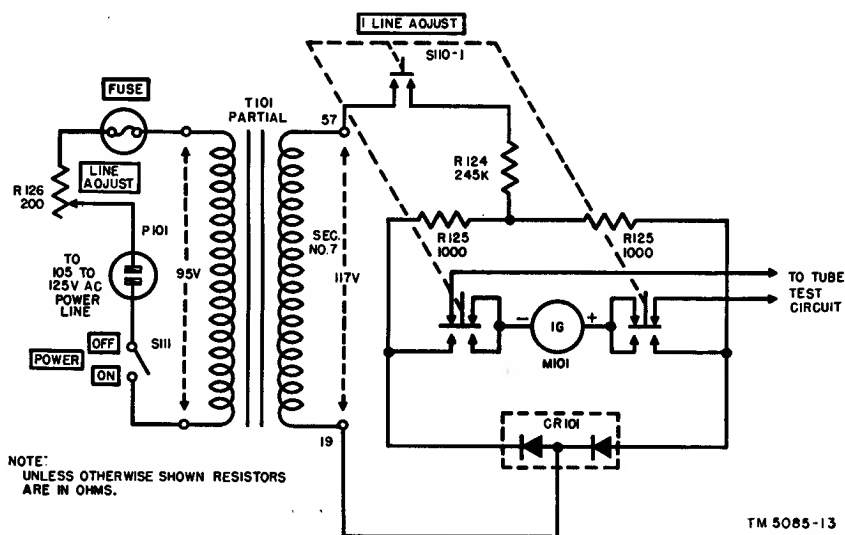

Figure 14. Simplified line voltage test circuit.
- (2) Secondary No. 7 of power transformer T101 consists of a multitapped winding designed to supply the various filament or heater voltages for the tubes under test. Voltages shown on figure 14 are measured under load. No-load voltages will be somewhat higher. For example, no-load voltage measured from point 19 to point 37 will be approximately 121 volts with 93 volts on the primary. Secondary No. 7 also supplies voltage for rectifier emission tests.
- (3) Secondaries No. 1 and No. 2 supply approximately 154 volts ac to the plates of the type 83 tube (V101) which supplies
b. *Line Voltage Test Circuit* (fig. 14).
- (1) Press the 1—LINE ADJ. push button to connect the meter to the rectifier bridge system which is made up of copper oxide rectifier CR101 and resistors R123 and R125. The a-c voltage obtained from points 19 and 37 of the power transformer is applied to the bridge network through resistor R124.
- (2) Resistor R124 is of such value that 121 volts rms (root mean square) obtained from terminal 19 to terminal 37 of the power transformer cause meter M101 to read at LINE TEST.
- (3) The power transformer is so designed that if 93 volts a-c rms are applied to the primary winding, 121 volts a-c rms are induced across the total secondary No. 7 winding or across points 19 and 37.
- (4) Keep the 1—LINE ADJ. push button pressed down and turn the LINE ADJUST control (R126) until the pointer of the meter is exactly over the LINE TEST mark, and a standard